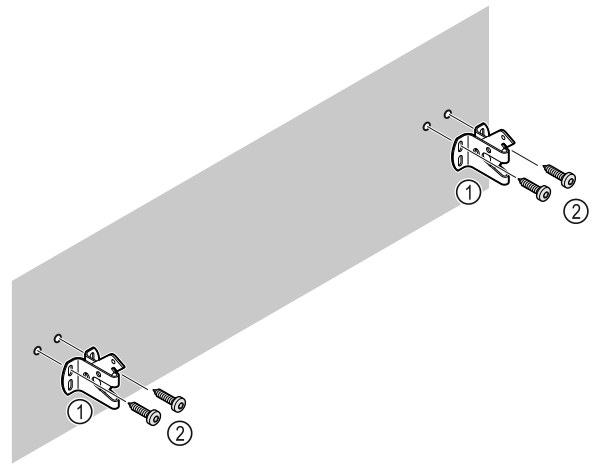

Fig. 10
Use fixing material (e.g. dowels) which is appropriate for the nature of the wall (wood, concrete) and sufficient attachment points Fig. 10 (2).
- ▶ Attach retaining hooks. Fig. 10 (1)